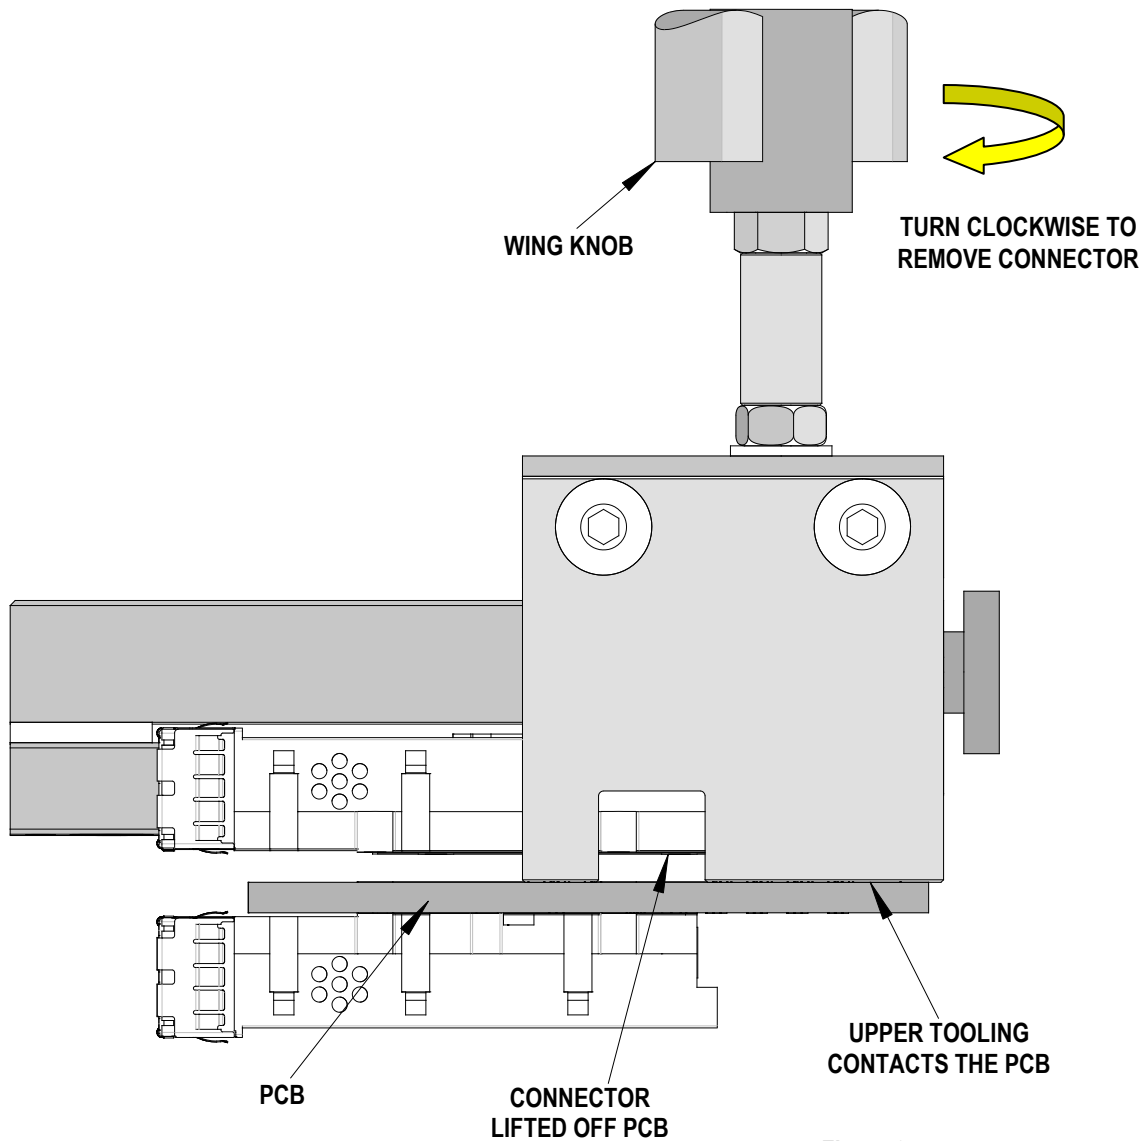

Figure 6
6. Turn the wing knob clockwise until the sides of the upper tooling contact the PCB. Continue turning until the connector is removed from the PCB. See Figure 6.